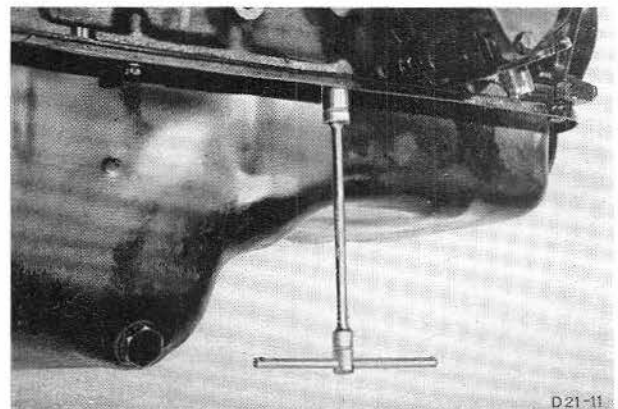

Fig. 25. Detach oil sump.
16. Remove sump Fig. 25. Detach sump with engine mounted upright in the stand. This is to avoid sludge or swarf getting into engine.